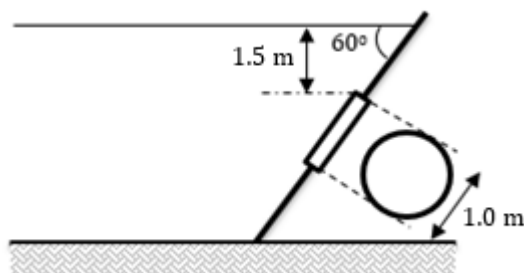

Figure 6
6. A gate has been installed at inclined outlet of water reservoir. This is a rounded door as shown in figure 6 below. Calculate the total of hydrostatic force (F), and determine the location for the center of pressure against the door. (Ans: 14885.743 N, 1.957 m)